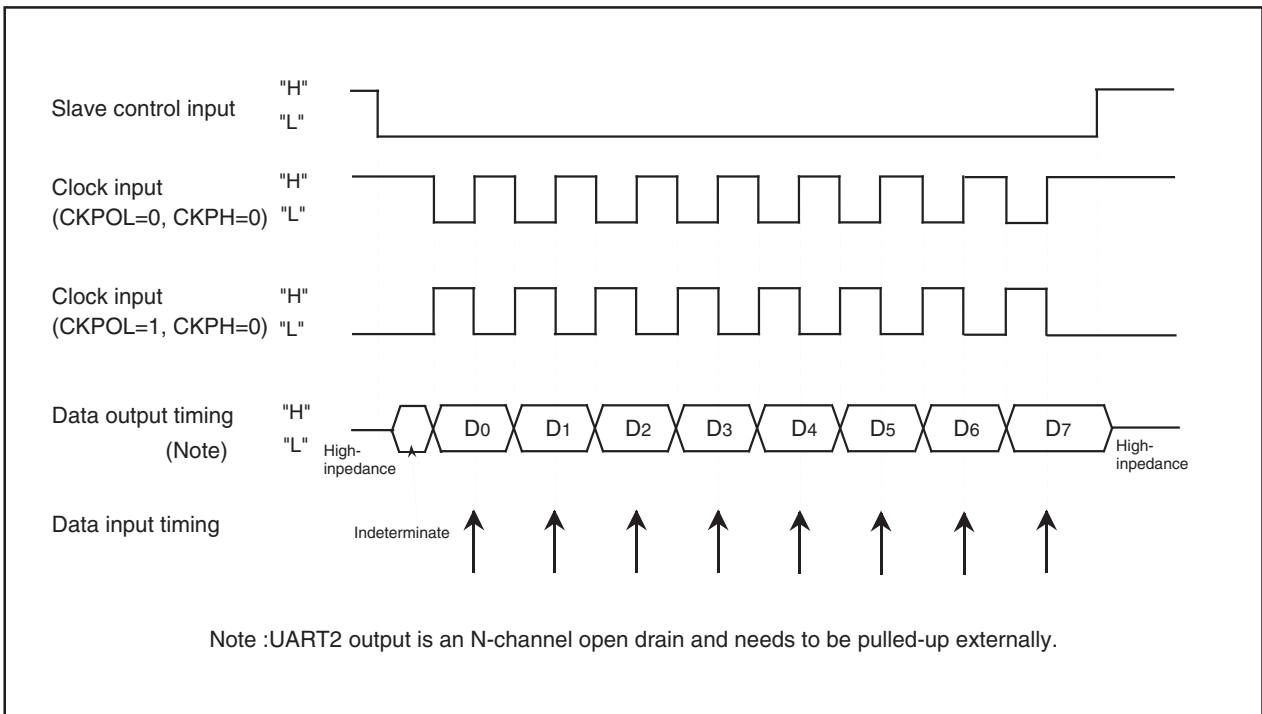

Figure 1.15.34. The transmission and reception timing (CKPH=0) in slave mode (external clock)
- Figure 1.15.34 shows the timing when bit 1 of address 037516)="0"